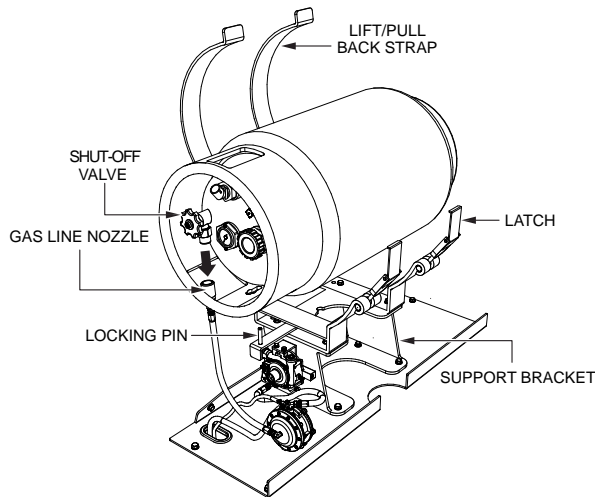

Figure 8. Propane Tank Removal
2. **CLOSE** shutoff valve (Figure 8) on propane tank.